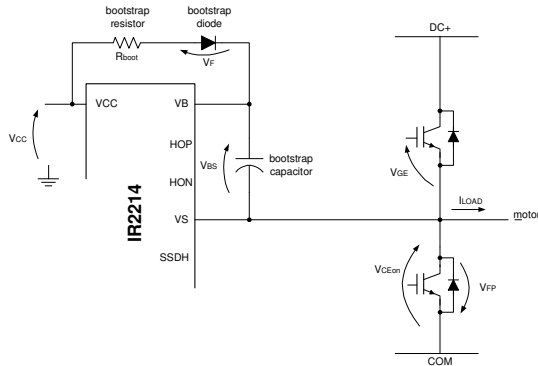

Figure 19: Bootstrap Supply Schematic
In the high side circuit, the desaturation biasing current may become relevant for dimensioning the bootstrap capacitor (see Fig. 19). In fact, a pull up resistor with a low resistance may result in a high current that significantly discharges the bootstrap capacitor. For that reason, the internal pull up resistor typical value is of the order of 100 k $\Omega$ .
The  $V_{BS}$  voltage provides the supply to the high side driver circuitry of the gate driver. This supply sits on top of the  $V_S$  voltage and so it must be floating. The bootstrap method is used to generate the  $V_{BS}$  supply and can be used with any of the IR211(4,41)/IR221(4,41) drivers. The bootstrap supply is formed by a diode and a capacitor as connected in Fig. 19.
**Voltage Ripple:** There are three different cases to consider (refer to Fig. 19).
**Bootstrap Resistor:** A resistor ( $R_{boot}$ ) is placed in series with the bootstrap diode (see Fig. 19) in order to limit the current when the bootstrap capacitor is initially charged. We suggest not exceeding 10  $\Omega$  to avoid increasing the  $V_{BS}$  time-constant. The minimum on time for charging the bootstrap capacitor or for refreshing its charge must be verified against this time-constant.